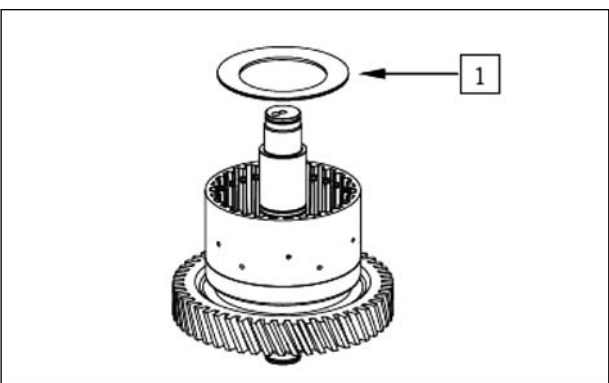

Figure 10
Install outer and inner disks alternately into the disk carrier (3) as shown in Figure 10.